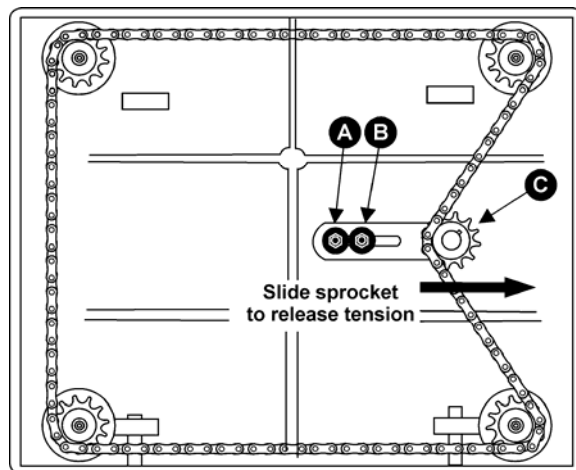

Figure 22
2. Tilt planer on its side to expose underside of base, as shown in Fig. 22.
3. Remove bolt (A, Fig. 22) and loosen bolt (B, Fig. 22) which will allow you to move the idler sprocket assembly (C, Fig. 22) far enough to release tension on the chain.
6. When adjustments are correct, replace chain around corner sprocket, slide sprocket (C, Fig. 22) back to re-tension chain, tighten bolt (B, Fig. 22) and replace and tighten bolt (A, Fig. 22).